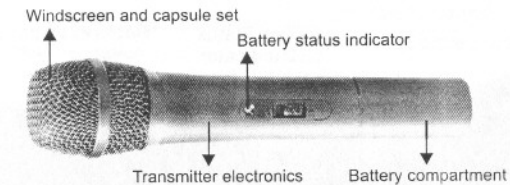

Fig. 1.
1. The microphone is shown in Fig 1.